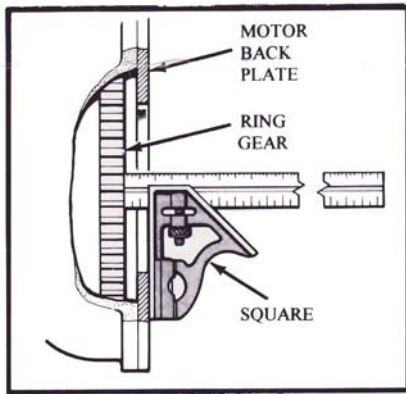
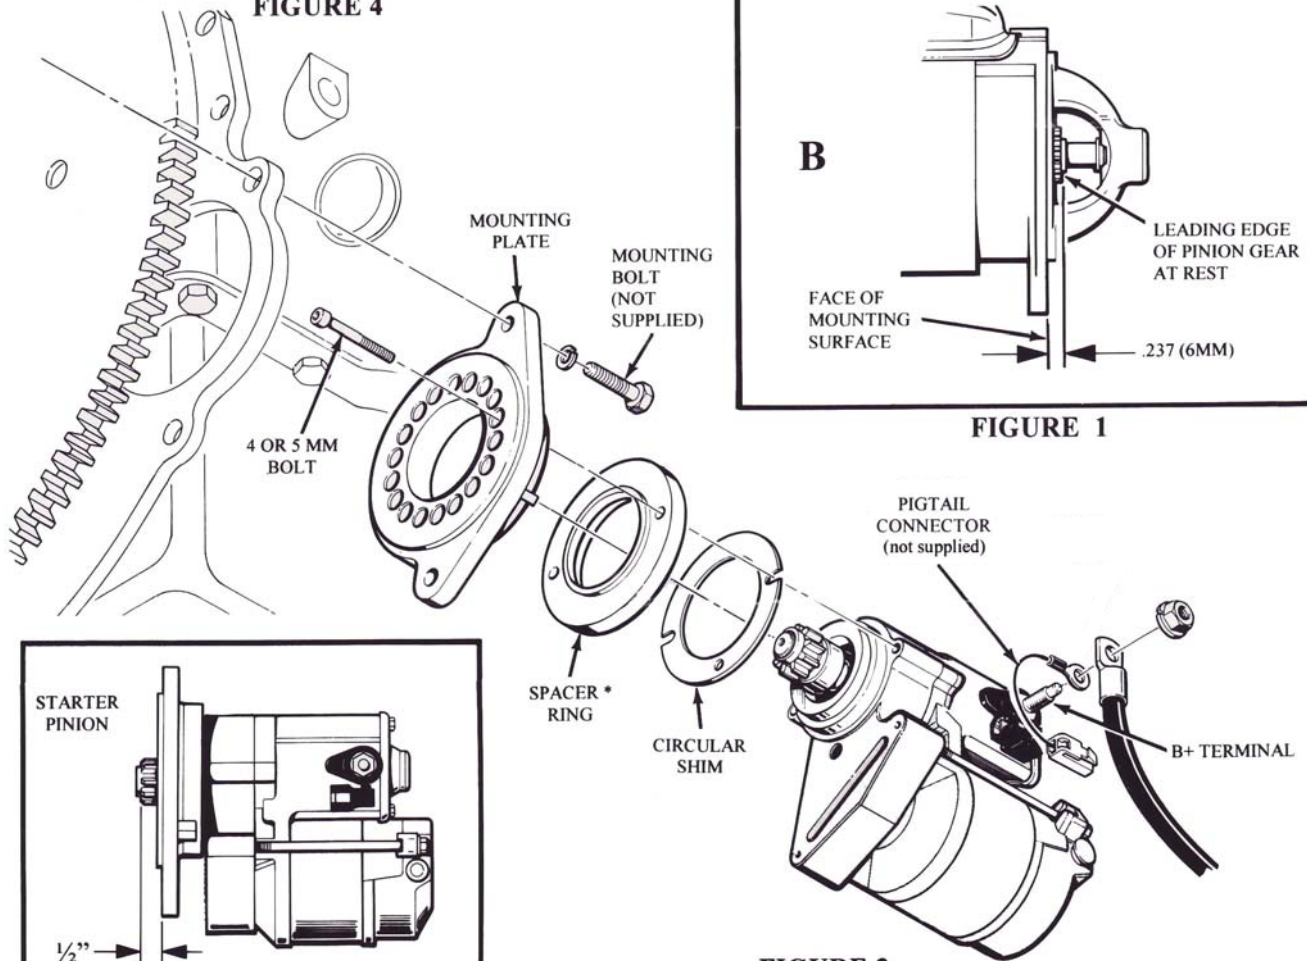
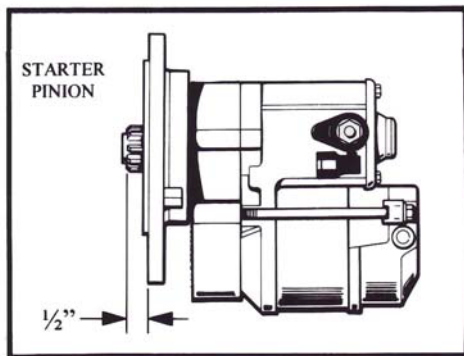

FIGURE 4
FIGURE 3
FIGURE 2
2. Temporarily attach the mounting plate to the engine using the original bolts (Figure 3). NOTE: Big block Fords use the 906T mounting flange, which has a threaded hole. At this point DO NOT bolt the starter to the mounting plate. Hold the starter motor temporarily up into position on the mounting plate. While holding the starter motor in place, check for clearance between the starter and the engine block, and between the headers/exhaust system. NOTE: There are eighteen mounting holes located at 20 degree increments. Rotate the starter until you have roughly equal clearance on both sides of the motor. Using a felt tipped marker, mark across the mounting plate and the body of the starter motor. Remove the starter motor and the mounting plate from the engine. Position the mounting plate onto the starter motor. Install the two 5mm allen screws into the pair of holes which allow the closest alignment of the previously made marks. Using a metric allen wrench, temporarily tighten the bolts.
3. End clearance between the ring gear and the pinion gear teeth in the retracted position is critical (Figure 2). On the Hi-Torque starter, the pinion gear extends past the mounting plate flange by $\frac{1}{2}$ " in the retracted position. The distance from the motor mount plate to the front edge of the ring gear must be measured (Figure 4). Calculate the clearance by subtracting $\frac{1}{2}$ " from this dimension. If you are using the spacer ring (Figure 3) in your installation, then subtract an additional 0.4". The clearance should be between .040" to .100". If the measurement is less than this, you will have to add a circular shim (supplied with starter) between the starter motor and the mounting plate. Each shim is .074" thick. After determining the proper number of shims, apply Loctite 262 (or equivalent) to the bolts and tighten them to 95 IN/LBS. We recommend that you use a 4mm or 5mm hex driver with an inch pound torque wrench to do this.